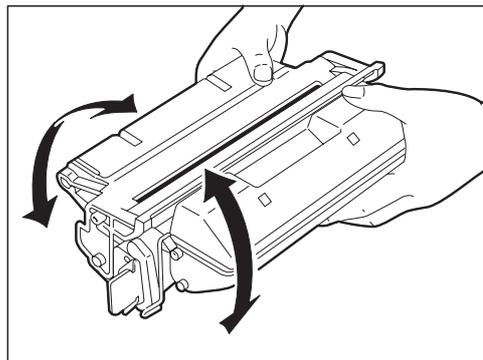

Figure 1-5-2
- 2) Hold the cartridge as shown in figure 1-5-2 and slowly rock it to right and left 5 to 6 times so that the toner is evenly distributed.